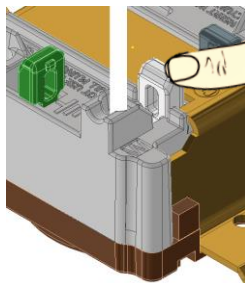

Fig. 8
4. Push each plunger to the down position to terminate conductor. See Fig. 8.